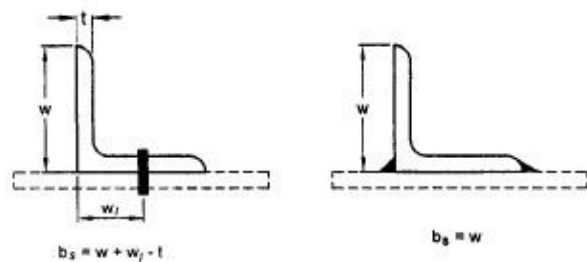

FIG. 6 ANGLES WITH SINGLE LEG CONNECTIONS
- b_s = shear lag width, as shown in Fig. 6, and